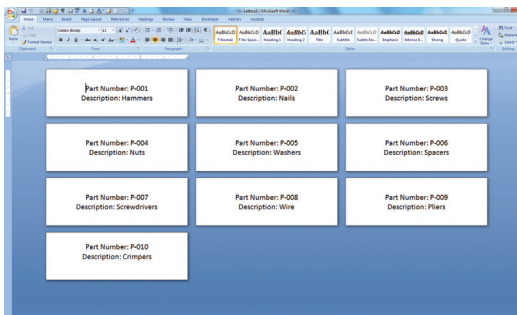

FIGURE 22 Your labels are displayed in sequence prior to printing.
- S. A **Checking and Reporting Errors** window now appears. Leave the second option selected and click **OK** (Fig. 21). Your labels are then displayed on a single document for your review (Fig. 22).